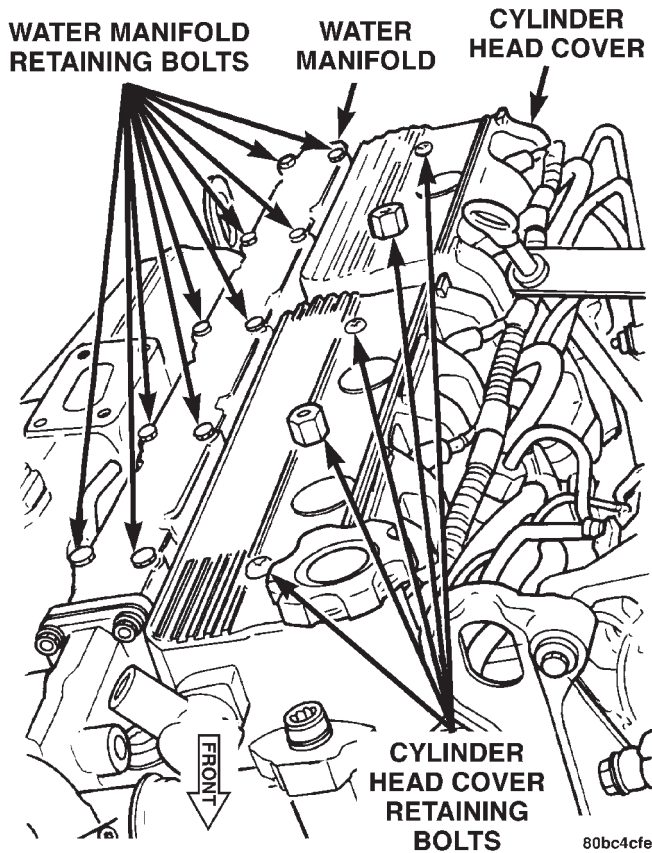
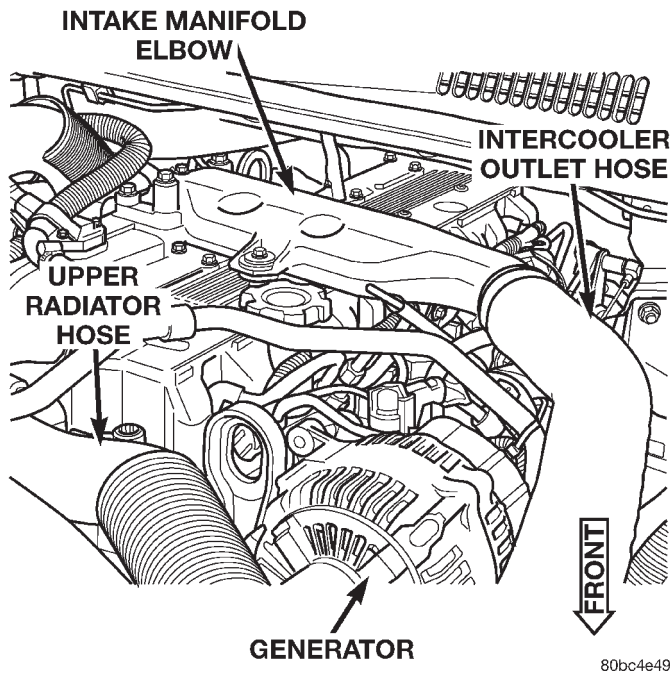

Fig. 48 Cylinder Head Cover
Fig. 49 Intake Manifold Elbow
(1) Install the cylinder head cover and gasket. Torque the bolts to 15 N·m (133 in. lbs.) (Fig. 48).
(2) Using the jack, raise the engine assembly until the left engine mount throughbolt can be installed.
(3) Remove the jack and install the fuel filter / water separator.
(4) Connect the crankcase breather hose to front of cylinder head cover.
(5) Connect the (5) glow plug electrical connectors (Fig. 48).
(6) Position the refrigerant line and install the retaining bolt.
(7) Install the intake manifold elbow (Fig. 49).
- (8) Install the intake manifold elbow inlet hose (Fig. 49).
- (9) Raise the vehicle on the hoist.
- (10) Install the left engine mount throughbolt nut. Torque the nut to 61 N·m (45 ft. lbs.).
- (11) Install the low pressure refrigerant line and retaining bolt. Torque the bolt to 28 N·m (21 ft. lbs.). Be certain the sealing o-ring is well lubricated and free of tears.
- (12) Install the front splash shield.
- (13) Lower the vehicle on the hoist.
- (14) Connect the negative battery cable.
- (15) Evacuate and charge the refrigerant system. Refer to Group 24, Heater and Air Conditioning for the procedure.
- (16) Start the engine and check for leaks.